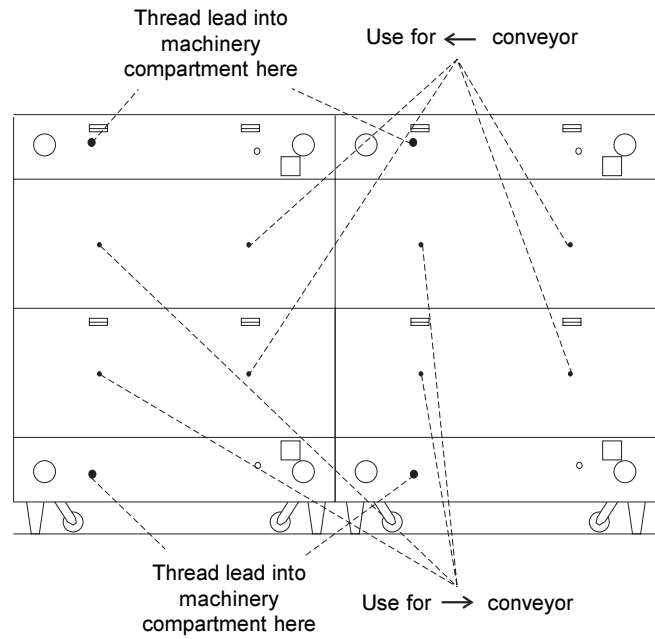

Figure 2-3
1. Install the thermocouple sensing bulb into the correct hole in the rear of the oven, as shown in Figure 2-3.